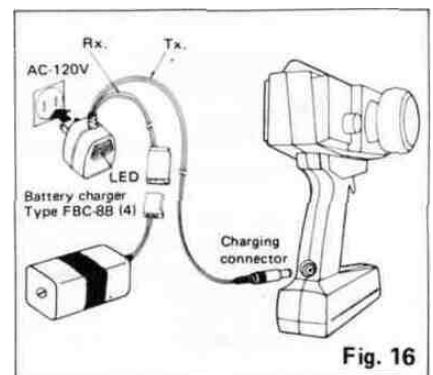

Fig. 16
(2) Charging and how to use
- (a) Connect the power plug of the FBC-8B (4) battery charger to the transmitter charging connector. Connect the 3PC red male connector to the receiver and servo NR-4H nicad battery. Plug the battery charger into a 120 VAC outlet as shown in Fig. 16.